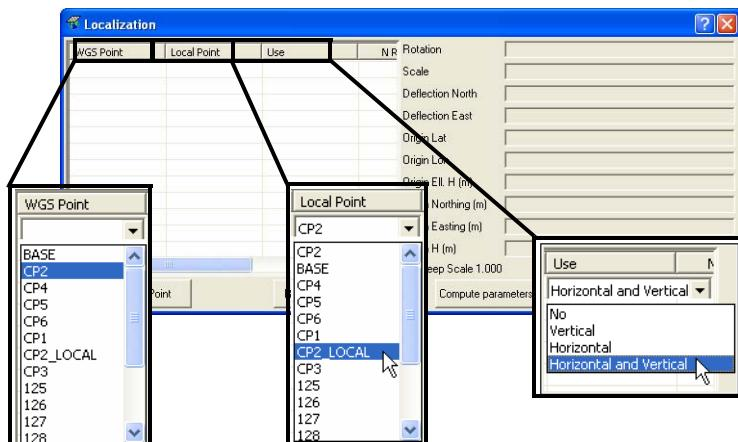

Figure 6-42. Select WGS, Local Point, and Use Data
4. Select the following information (Figure 6-42):